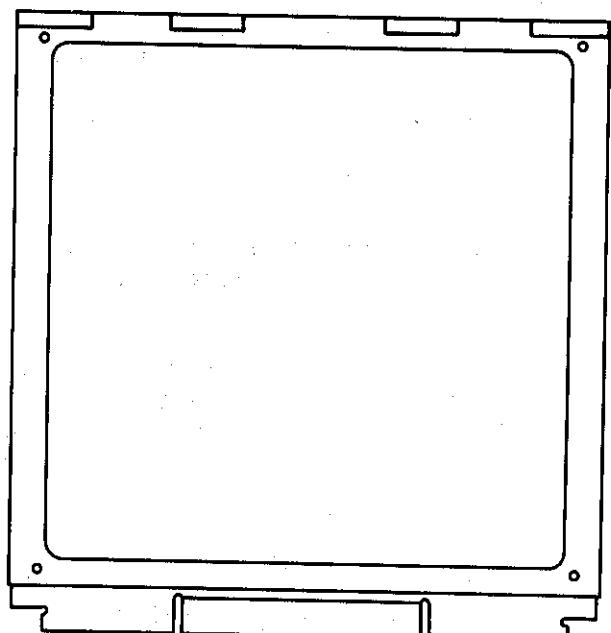

Figure 4-68. Map Display Cover
4. MAP LIGHTS - Provides a means of varying in right and left sides of map display cover (figure 4-68).